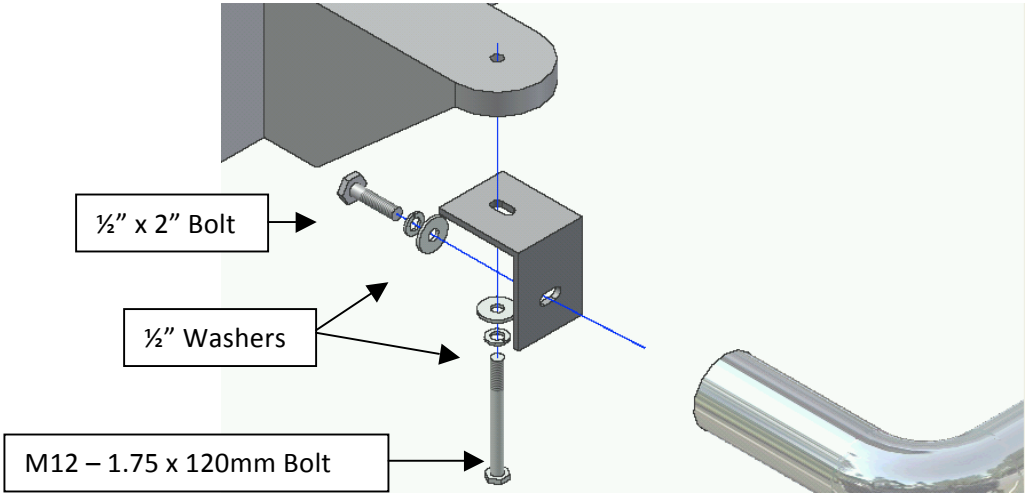

Figure 1.2 – Front Bracket
2. From underneath truck, loosen and remove body mount bolts that run upward through mounts into floorboard. Attach and secure Front Mount Bracket to underside of vehicles front body mount (see Figure 1.2) with (1) M12 – 1.75 x 120mm bolt (**For 07-on models, use the factory bolt on the vehicle**), (1) ½" split lock washer, and (1) ½" flat washer. Hand Tighten.